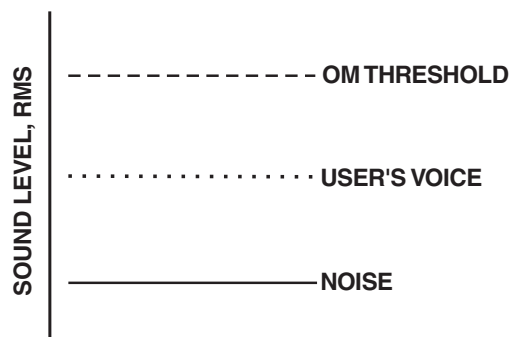
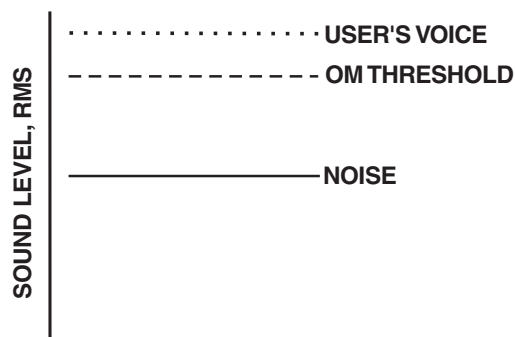

Figure 30
Figure 31
The microphone gain controls on the base station and beltack are set to mid-levels by the factory. In most cases this setting will work fine and only on loud speech will the overmodulation (OM) indicator light. However, in environments where the background noise is loud or the user has a strong/quiet voice, the gain control will need to be adjusted. In Figure 30 the gain is set correctly. The user's root-mean-square (RMS) sound level is well below the OM threshold and only on peaks does his or her voice flash the OM indicator light.
Figure 31 displays the same gain setting as in Figure 30 but brought into a high noise environment. The user's voice now lights the OM indicator all the time he or she speaks due to the higher noise plus the user speaking louder. The result on the system is distortion on louder speech. The microphone gain must be reduced. The same applies to a user with a powerful voice. If someone sets the system mic gain to their voice and user has a much stronger voice, then the gain will need to be reduced, even if the background noise is the same.